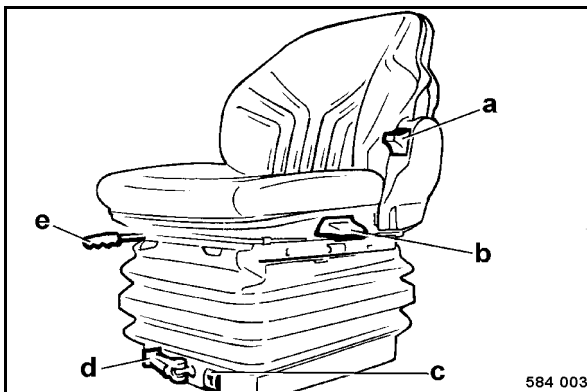

Fig. 71
- To adjust the seat in longitudinal direction disengage lever e (Fig. 71) upwards and push the seat forward or back.